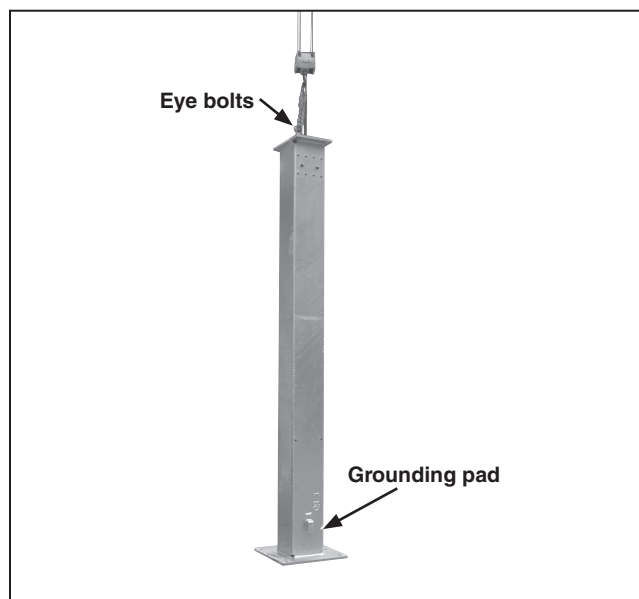

Figure 5. Lifting the pedestal into position.
- STEP 2.** Install the temporary eyebolts into the holes provided at the top of the mounting pedestal. Attach the lifting slings to the eyebolts. See Figure 5.
- STEP 3.** Lift the pedestal over the anchor bolts. Before lowering, make sure the grounding pad is positioned properly for the installation. Refer to the accompanying catalog drawing for details. See Figure 5.